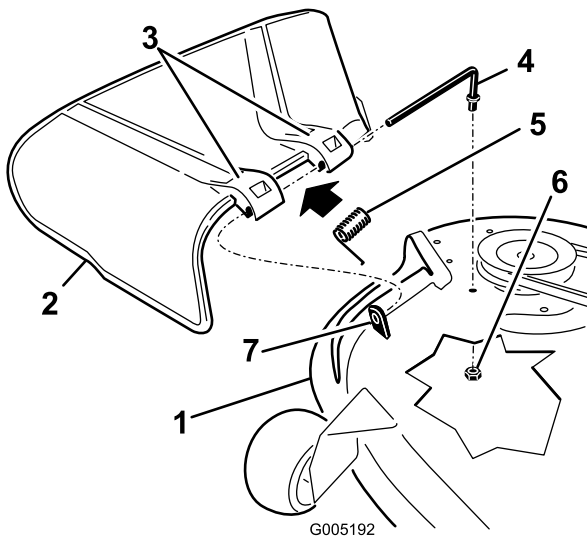

Figure 71
- Locate items shown in Figure 71.
2. Remove the nut (3/8 inch) from the rod under the mower (Figure 71).
3. Slide the rod out of the short stand-off, spring, and grass deflector (Figure 71). Remove the damaged or worn grass deflector.
4. Replace the grass deflector (Figure 71).
6. Place the spring on the rod, with end wires down, and between the grass deflector brackets. Slide rod through second grass deflector bracket (Figure 71).
7. Insert rod at front of grass deflector into short stand-off on deck. Secure rear end of rod into the mower with a nut (3/8 inch) (Figure 71).